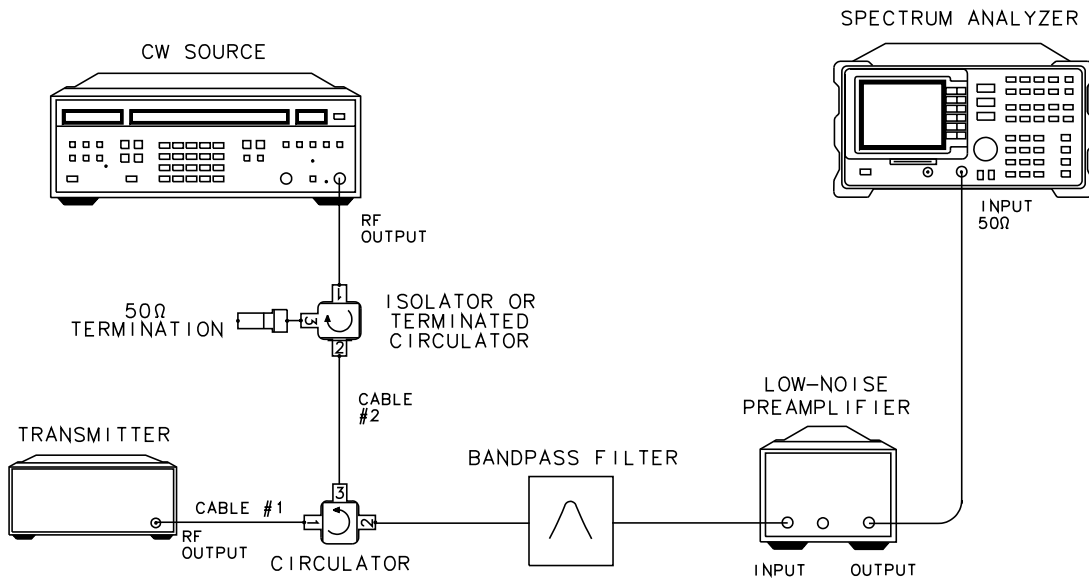

Figure 32 Test Setup for Intermodulation Attenuation - RX Band
- 6 Read the text and make the test setup connections described in the displayed text. Refer to Figure 32 on page 74 for the test setup.
For the test setup illustrated in Figure 32 on page 74, the base station output power is reflected from the bandpass filter (BPF), through the circulator, and into the isolator/circulator at the output of the CW source. Make certain that this isolator/circulator is capable (rated) of dissipating the output power generated by the base station transmitter. Failure to supply an adequately rated isolator/circulator can damage the isolator/circulator or the CW source.